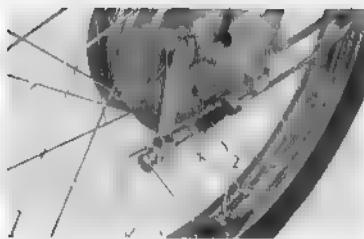

Fig. 4.17 Assembling the front fork
① Front brake adjusting nut
② Front brake cable
8. Connect the front brake cable and make the adjustment with the adjusting nut ① at the brake arm. Adjust so that there is 10 mm to 20 mm 0.40~0.80 in. of free travel of the brake lever (Fig. 4.17)